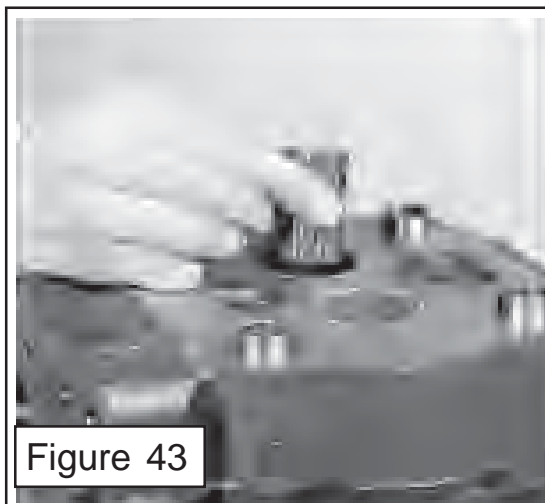

Figure 43
19. Coat the connecting shaft (figure 10 item 14) use light coat of grease, insert it into spline of drive gear. Make certain that gasket seals are coated with clean grease and installed into second gear housing as instructed in step 12. Position and place second gear housing (figure 10 item 16) making certain the dowel pins are kept aligned between two castings (figure 43 & 44). Housing should fit flush to bearing housing. **MAKING CERTAIN** the marks made to keep the components in the same orientation when re-assembled are aligned (figure 23A).